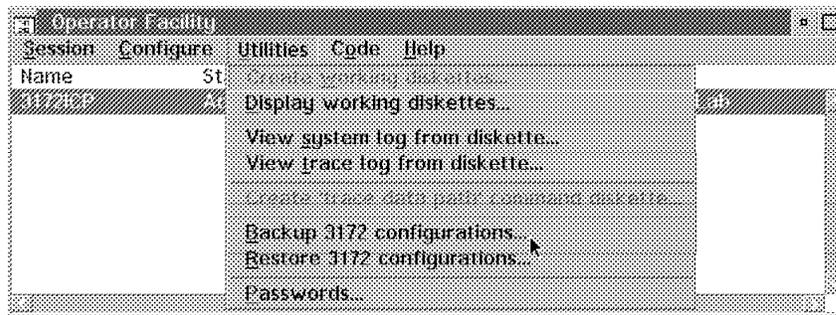

Figure 190. Back Up 3172 Configuration
Step 2. Select **Utilities** from the action bar as shown in Figure 190 on page 304.